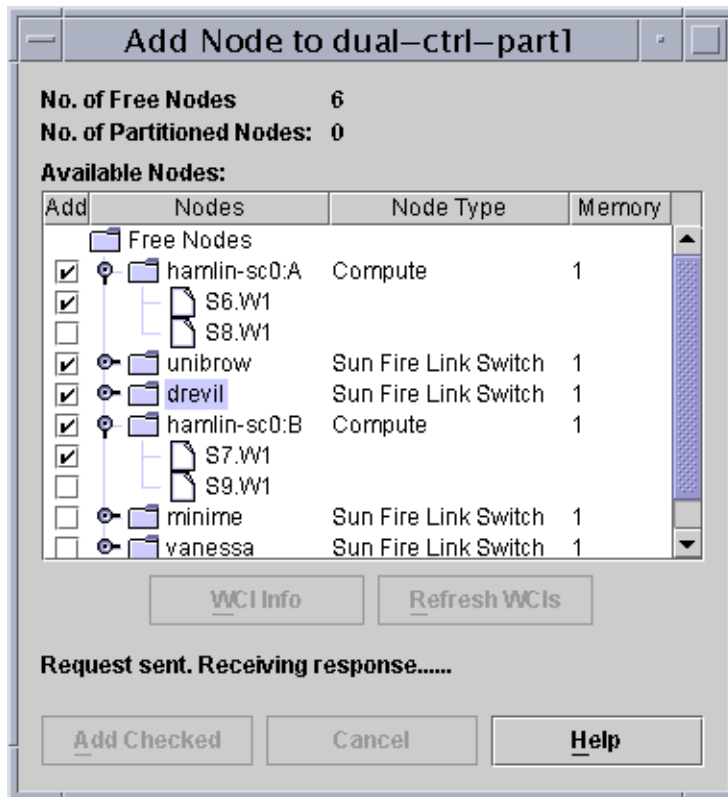

FIGURE 6-10 Add Node Dialog for a Dual-Controller Partition on a Sun Fire 6800 System With Nodes and Switches Selected
- 5. For nodes, click on the box to the left of every Sun Fire Link assembly that you want to include in the partition. See FIGURE 6-10.**